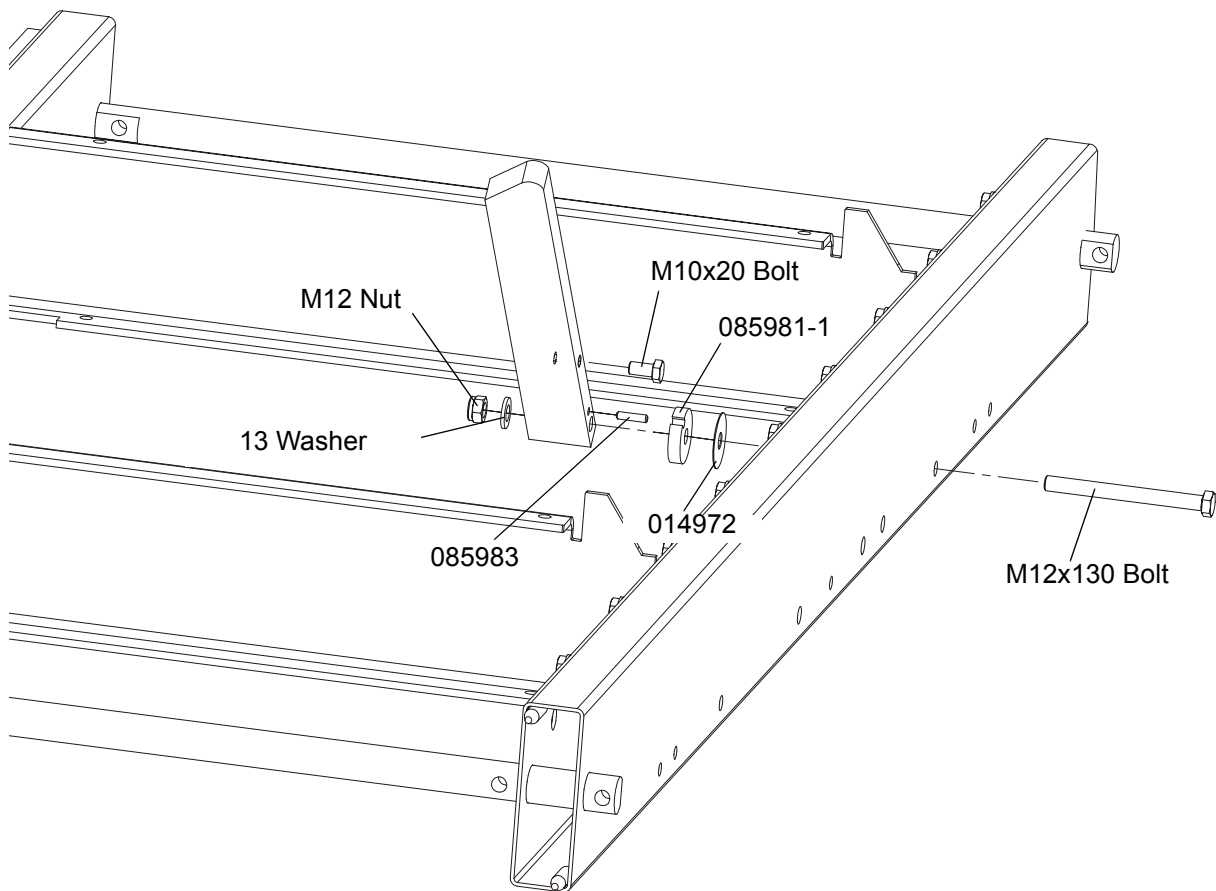

FIG. 2-7
10. Install the log side supports as shown in Figure 2-7. Tighten the nuts so that the side supports can be moved with little resistance. Adjust the side supports. See Section 6.11.
See Figure 2-7.